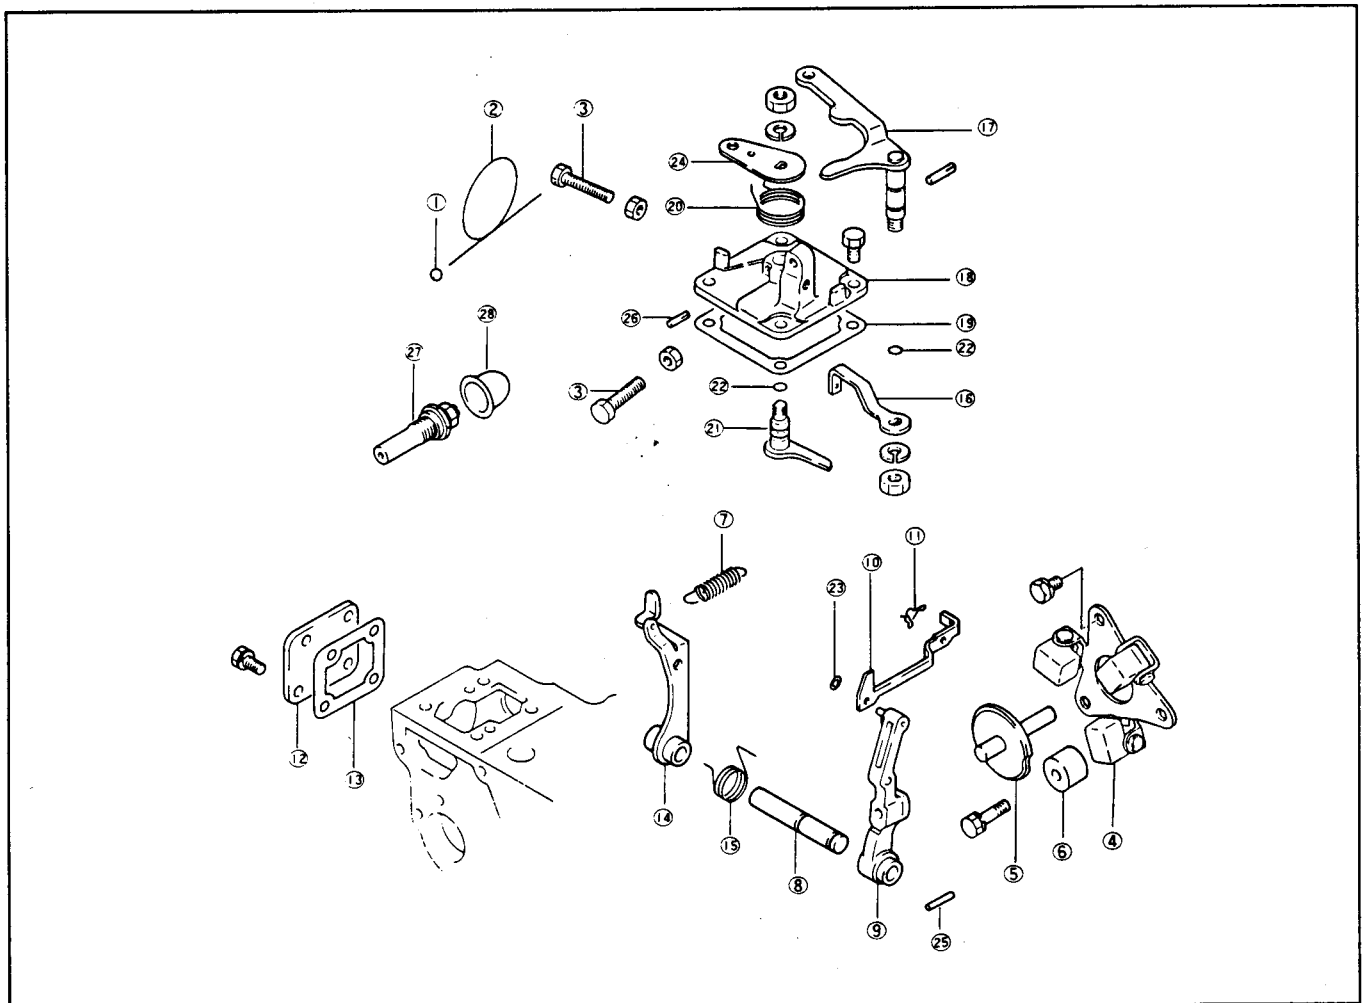

Figure 50
3. While holding the stop lever (Fig. 50) in the stop position (towards the rear of the machine) turn the ignition key switch quickly to the START position and release it to the ON position. This will retract the stop solenoid plunger, allowing movement of the injection pump control rack.
1. Remove the tie rod cover (Fig. 50).